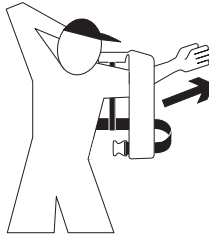

Figure 6
- Step 1.** Try on your inflatable to obtain a proper fit. Wear SOSPENDERS® like a jacket or vest. Put your left arm through the left shoulder between the shoulder and back strap (Figure 6).